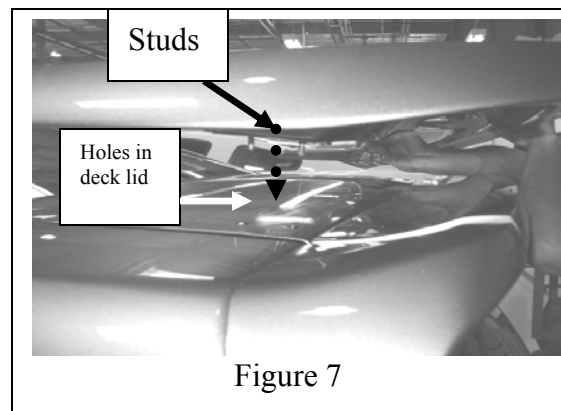

Figure 7
9. Carefully lower the wing onto the deck lid so the torque seal on the bottom of the studs marks the hole locations on the deck lid. Be very careful when lifting the wing off the deck lid so you don't smear the torque seal. (Figure 7)